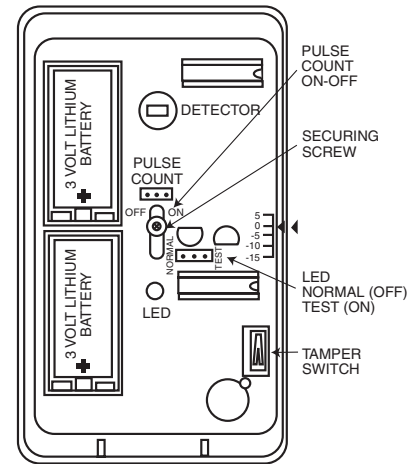

Figure 5. PC Board
2. **Observing correct polarity**, install the two Lithium batteries (supplied) into the battery holders, as shown in Figure 5. Make sure the batteries are firmly seated.
To program the detector, place the LED jumper in the TEST position (see Figure 5), the Pulse Count jumper in the OFF position, batteries installed and cover on. Temporarily cover the lens (a cloth will do) to prevent any activation by the detector.
2. Temporarily loosen (do not remove) the screw holding the PC board in the detector base (see Figure 5 for location of this screw). The board can then be moved up or down for access to the knockout mounting holes in the base.
5. Before fully tightening the PC board holding the screw, make sure the board is positioned so that the arrow is in line with the appropriate setting on the graduated scale on the right-hand side of the PC board (see Table 1 and Figure 5).
The protection pattern provided by the lens in use can be raised or lowered by re-positioning the PC board in the detector. A graduated scale to the right of the board (see Figure 5) indicates the approximate number of degrees by which the pattern can be raised (max. +5°) or lowered (max. -15°). The detector is normally shipped with the board set to the 0° position. To make this adjustment, remove the cover on the detector and loosen the screw holding the PC board (the screw is located at the approximate center of the board). Slide the board upward or downward by the number of degrees required, then tighten the holding screw again. After any adjustment, you must conduct a Walk Test to ensure proper coverage of the area to be protected, as indicated under **TEST PROCEDURES**.
Each detector includes pulse count circuitry that is designed to provide stability in adverse environments to minimize false alarms. Pulse count is selected by positioning a jumper across the ON pulse count terminals (shown in Figure 5). When set for pulse count ON, the detector will signal an alarm within 2 or 3 steps, because the processing logic requires more complex motion than just a momentary event. When the detector verifies an intrusion, the built-in transmitter will send an alarm message to the control/receiver.
The detector is shipped with the LED disabled (LED jumper in the "NORMAL" position). The LED may be enabled (for the Walk Test) by positioning the LED jumper in the "TEST" position (see Figure 5).
† See Figure 5 for location of adjustment scale on PC board (refer also to *VERTICAL PATTERN ADJUSTMENT*).